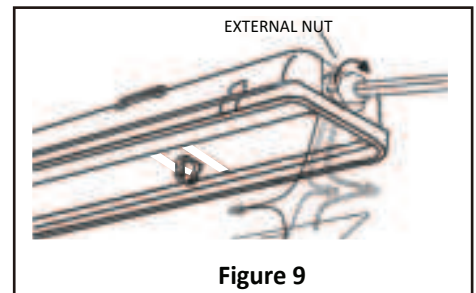

Figure 9
1. Feed supply wire through fitting. Make sure supply wire is long enough to make connection. **See Fig. 9.**
2. For none-dimming fixture. Connect the white wire from the fixture to the white (N) wire from supply power source. Connect the black fixture wire to the black (L) wire from supply power source. Pink/gray and purple wires are not to be used and must be individually capped to prevent shorting.
3. Tighten external nut on water-tight fitting to seal wire entering into fixture. **See Fig. 9.**